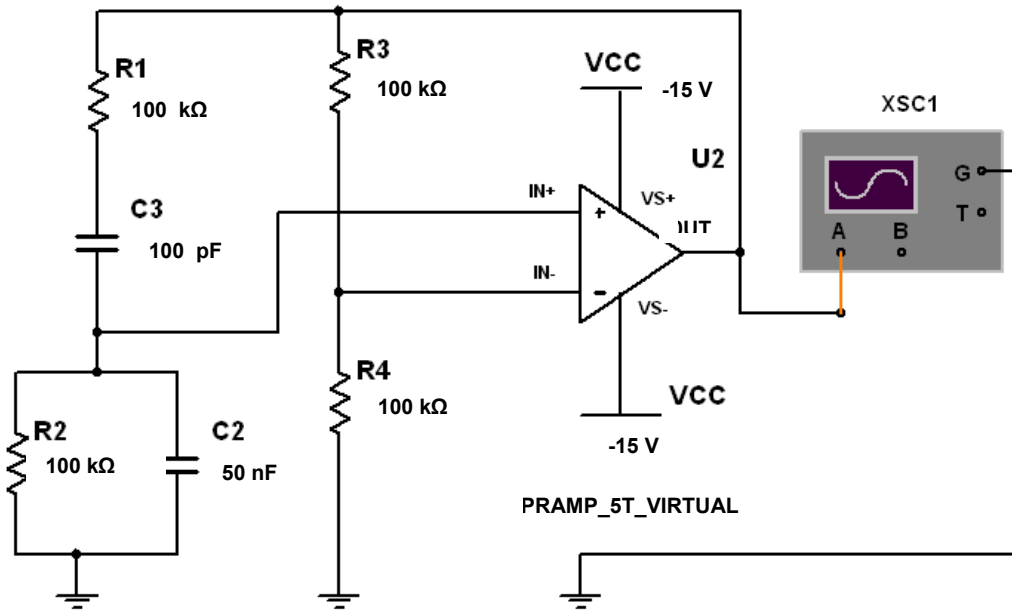

FIGURE 7.3 – Wien bridge oscillator
7.7 Calculate the resonant frequency of the Wien bridge oscillator shown in FIGURE 7.3.